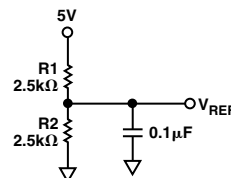

Figure 7. Midsupply Reference
A voltage divider can be created with two equal value resistors (Figure 7). There is a trade-off between the power consumed by the divider and the voltage drop across these resistors due to the positive input bias currents. Selecting 2.5 k Ω for R_1 and R_2 will create a voltage divider that draws only 1 mA from a 5 V supply. The voltage generated with this topology can vary due to the temperature coefficient (TC) of resistance. Resistors that are closely matched and have a low TC will minimize variations in the voltage reference due to temperature. One should also be sure to use a decoupling capacitor (0.1 μ F) at the node where V_{REF} is generated.